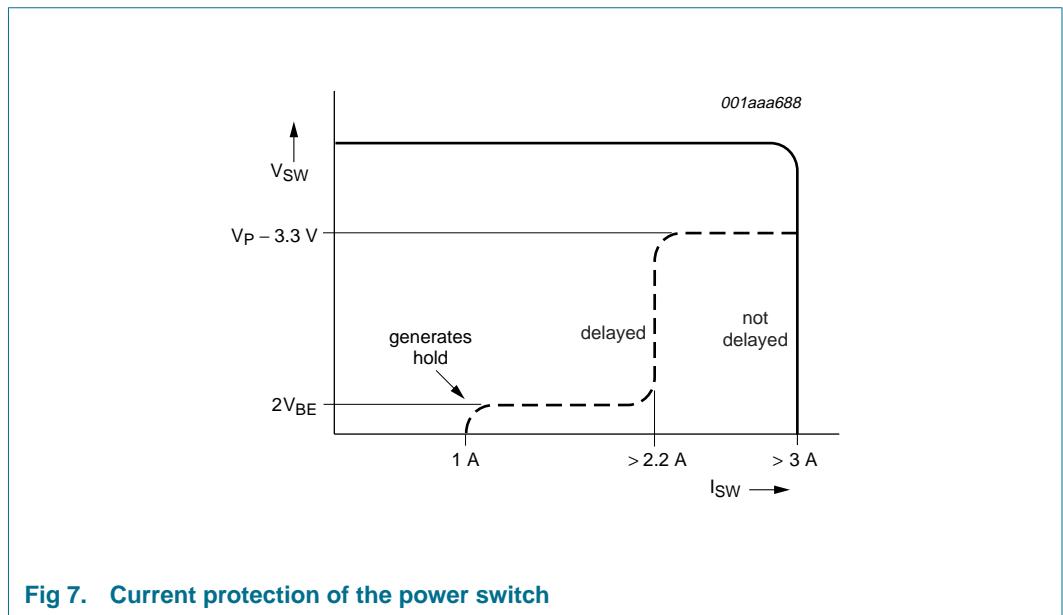

Fig 7. Current protection of the power switch
- [9] The drop-out voltage of the power switch is measured between pins V_{P1} and PSW; see Figure 7.